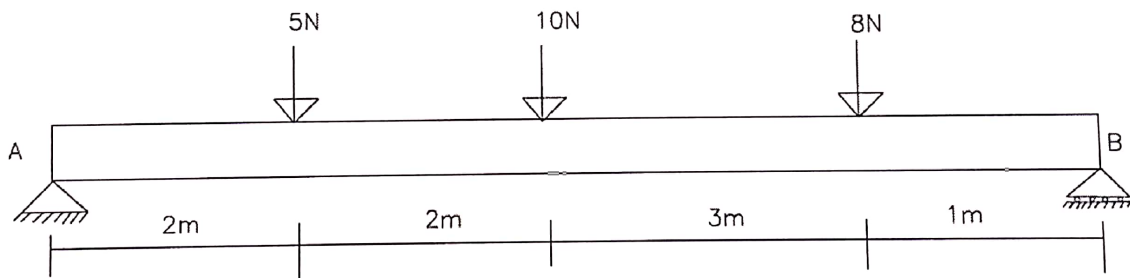

Fig. Q6a: Simply Supported Beam AB
- a) Draw the Shear force and bending moment diagram for a simply supported beam subjected to three-point loads as shown in Figure Q6a (10 Marks).